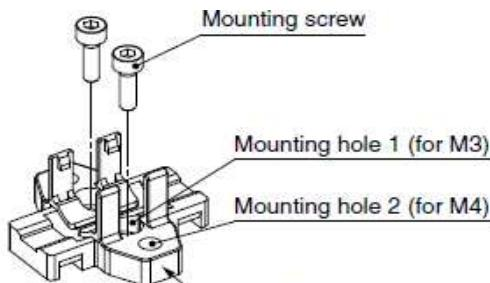

Fig. 6
- Mounting of the standard bracket (ZH18/20D- A) and adjustment of the vacuum (V) port
- (1) The standard bracket for the ZH18/20D- A can be mounted by using either mounting hole 1 or 2 (Fig. 6).
- (2) When mounting the product through mounting hole 1, mount the bracket to the installation surface first (Fig. 6).